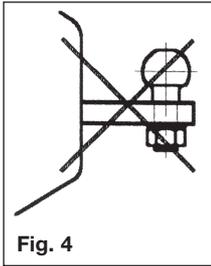

Fig. 4
3. A bolted-in type ball coupling (Fig 4) is only permissible if the thread is locked or welded.